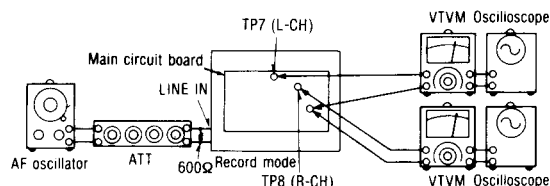

Fig. 23
1. Make connections as shown (See fig. 23).